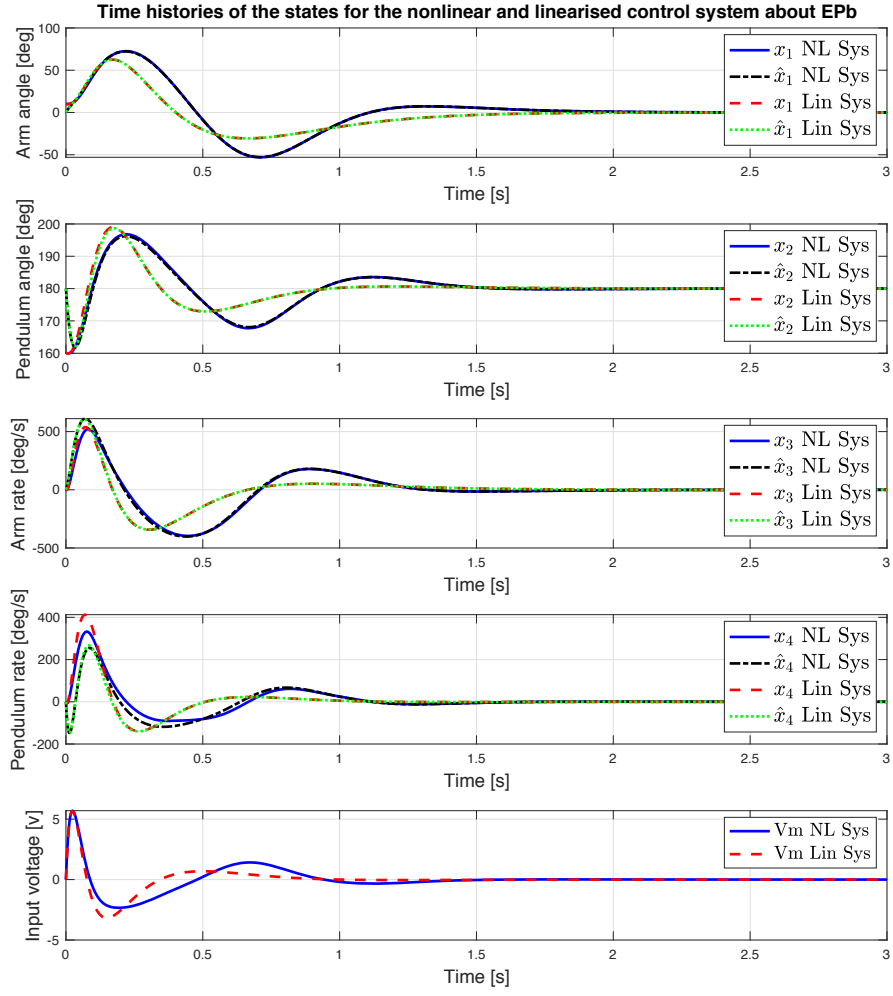

Figure 3: Time histories of the states, their estimations and input voltage.
9. Repeat this process for initial conditions about the equilibrium point  $\bar{x}_b$ . Save your script as `rp_mainfile_ofc_comparison.b.m`. Sample results for the initial conditions  $x_1(0) = 10$  deg,  $x_2(0) = 160$  deg,  $x_3(0) = 0$  deg/s and  $x_4(0) = 0$  deg/s are shown in Figure 3, where we selected the following eigenvalues:  $\{-5, -6, -7, -8\}$  for the control design, and  $\{-30, -31, -32, -33\}$  for the observer.